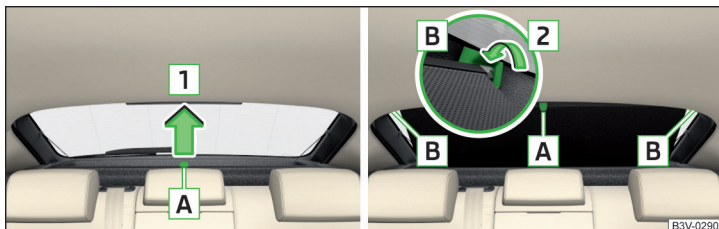

Fig. 57 Sun screen
- > To **roll down**, pull the sunshade by the handle **A** in direction of arrow **1** and suspend in the magnetic holder **B** in the direction of arrow **2** » Fig. 57.
- > To **roll up**, pull the sunshade by the handle **A** out of the holder **B** against the direction of arrow **2** » Fig. 57. Hold the sunshade so that this can slowly roll back in without damaging.